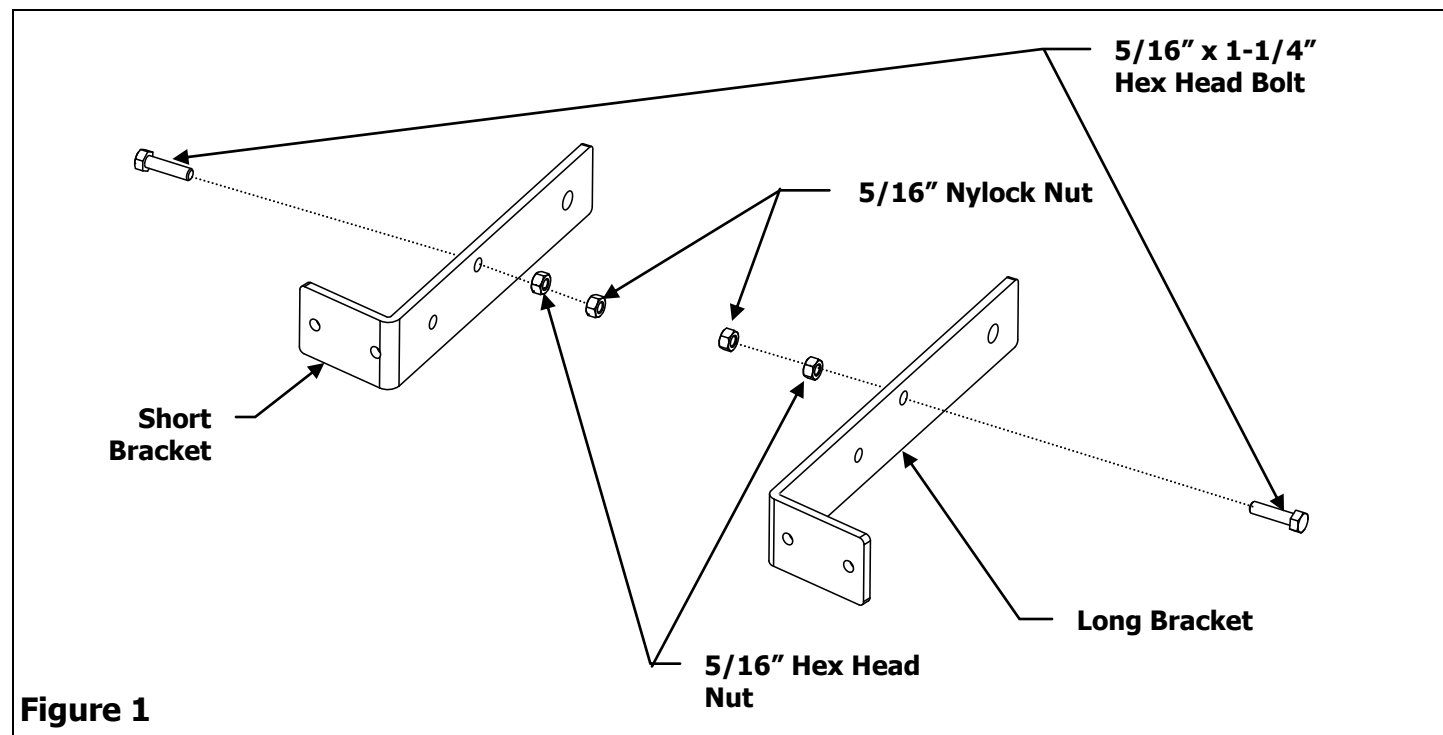

Figure 1
1. Insert a 5/16" x 1-1/4" Hex Head Bolt into the top center hole of both the Short and Long Brackets, attach a 5/16" Hex Head Nut and secure each bolt with a 5/16" Nylock Nut. See Figure 1.